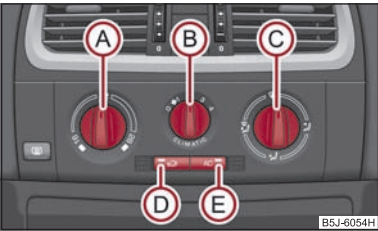

Fig. 91 Climatic: Control elements
- Press the button ⇒ page 83, fig. 91, the warning light lights up in the button.
The recirculated air mode is switched off automatically if the air distribution control is in position ⇒ page 83, fig. 91. You can also switch recirculated air mode on again from this setting by repeatedly pressing button .
The air conditioning system operates when switch  ⇒ page 83, fig. 91  is pressed and the following conditions are met:
- Turn the control dial  ⇒ fig. 91 to the right in order to increase the temperature.
- Press the button   ⇒ fig. 91. The warning light lights up in the button.